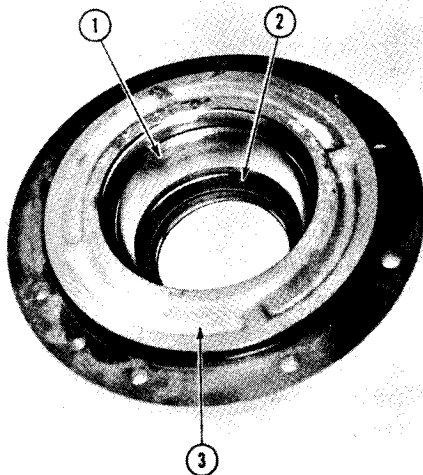

Figure 4-37
Remove and discard output shaft front seal (2, Fig. 4-37) from bearing retainer (3). After inspection, bearing cup (1) may be removed if replacement is required.